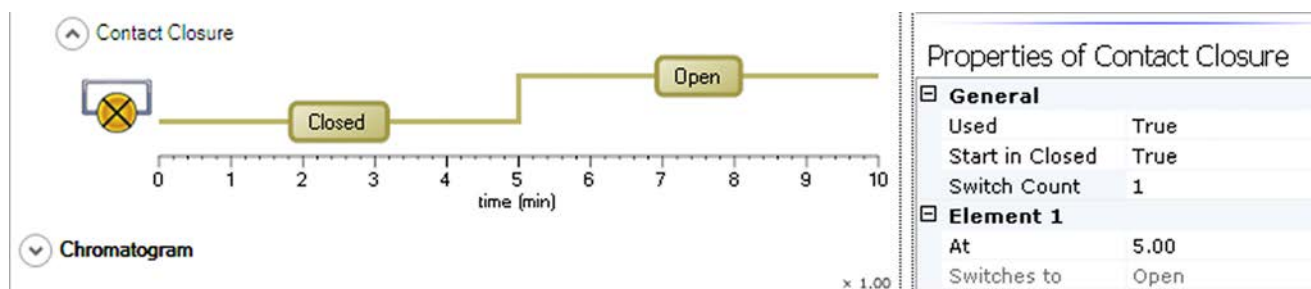

Figure 3-13. Contact closure
The Contact Closure item shows a graphic representation of the contact closure activities during the active acquisition. See Figure 3-13.
- Right-click the pane to display the shortcut menu. Choose **Activate**. The gray color **Not active** changes to the green color **Closed**. See Figure 3-13.